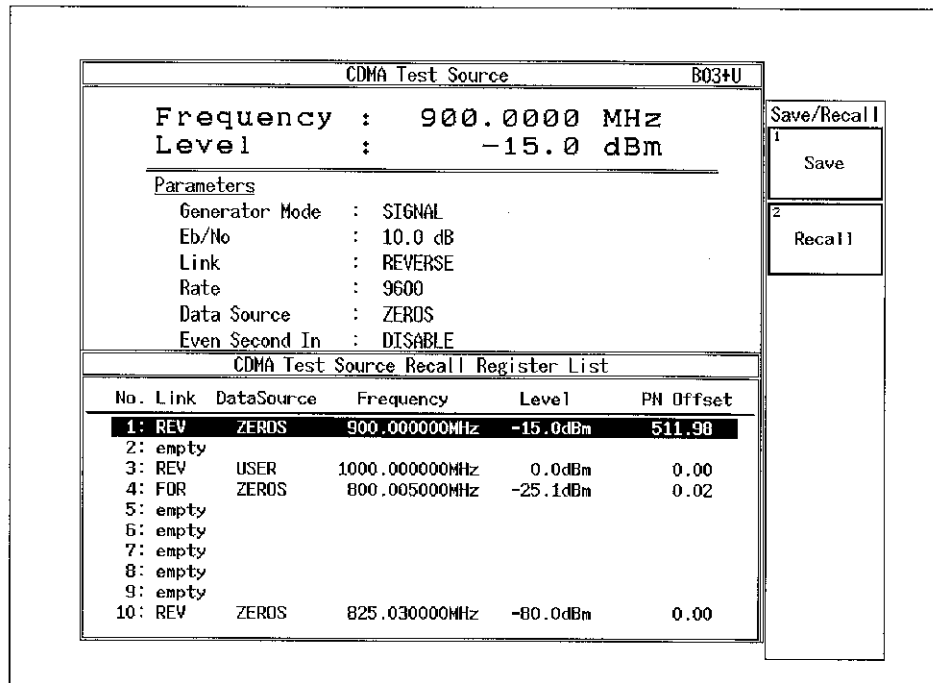

Figure 3-7 Save/Recall Screen
(9) Save/Recall key
(10) Save key
**{Save/Recall}** → **{Save}** : Activates the function of saving the current settings to R3561L backup memory. When this key is pressed, the R3561L backup memory content is displayed (see Figure 3-7). Select the file No. using the [DATA KNOB] key, and press the [DATA KNOB] or **[ENTER]** key to save the current settings. Maximum 10 settings can be stored in backup memory.
(11) Recall key